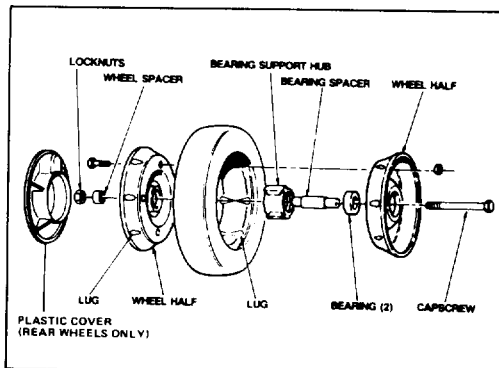

Figure 25
1. Stop engine and remove capscrew, wheel spacer, and locknut mounting wheel to pivot arm (Fig. 25).
2. Separate wheel halves from tire by removing (4) capscrews and locknuts (Fig. 25).
1. Position tire onto (1) wheel half aligning lugs on each (Fig. 25).
4. Using (2) 1/4—20 x 1.50" lg. fully threaded screws or bolts and non-locking nuts, loosely secure wheel halves together. Mount screws or bolts in opposing holes.
6. Install (2) capscrews and locknuts, previously removed, in remaining holes in wheel halves and tighten. Remove